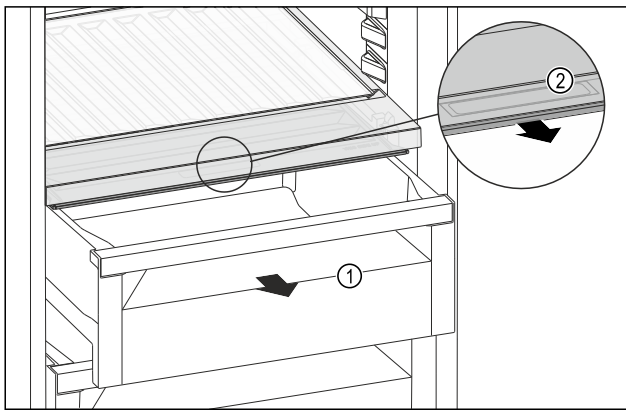

Fig. 210
- ▶ Pull out the drawer Fig. 210 (1).
- ▶ Grasp the recessed grip Fig. 210 (2) on the compartment lid and pull the compartment lid forwards at the same time.